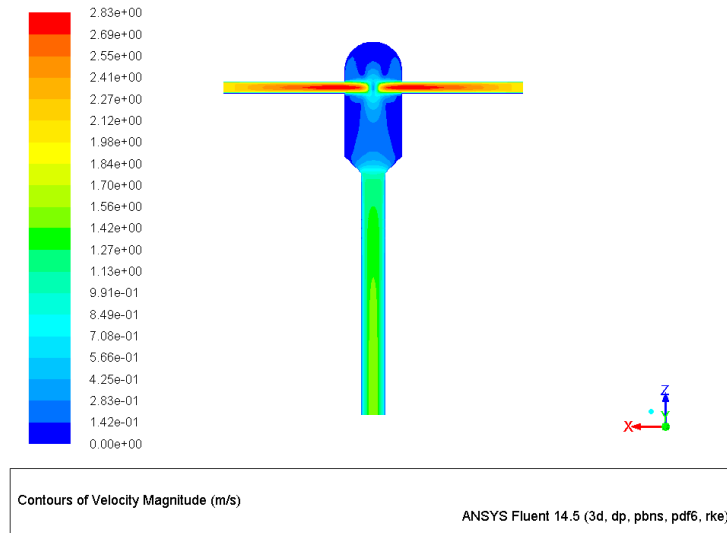

Figure 5: Contours of Velocity Magnitude
- (c) Click Display (see Figure 5).